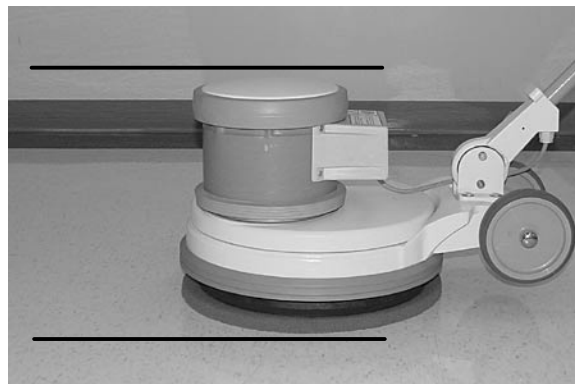

FIG. 10
3. Before starting the machine, hold the handle so the machine base is parallel to floor (Figure 10). This will reduce the abrupt jolt when starting the machine.